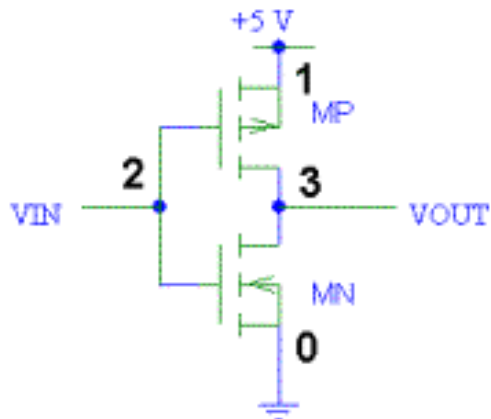

Figure 1: CMOS Inverter
From Figure 1, a CMOS circuit is composed of two MOSFETs. The top FET (MP) is a PMOS type device while the bottom FET (MN) is an NMOS type. The body effect is not present in either device since the body of each device is directly connected to the device's source. Both gates are connected to the input line. The output line connects to the drains of both FETs.